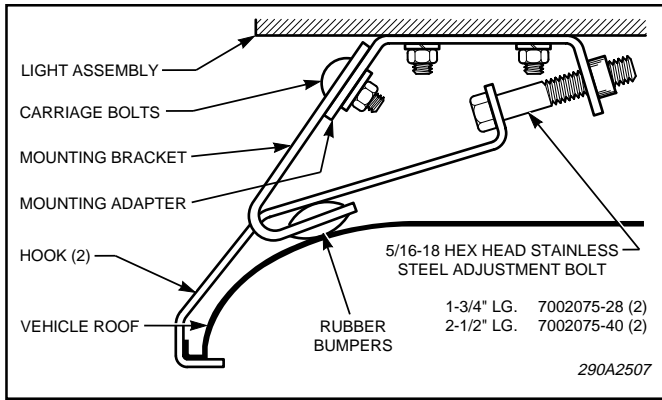

Figure 8.
b. Adjust both mounting bracket assemblies in or out until the rubber bumpers rest near the edge of the roof or gutter where the roof is most rigid (see figure 8).
d. See figure 8. Insert the hook into the opening in the center of the mounting bracket. Install the 1-3/4" or 2-5/8" stainless steel adjusting bolt (finger tight). Repeat on the other side of the Light Assembly.